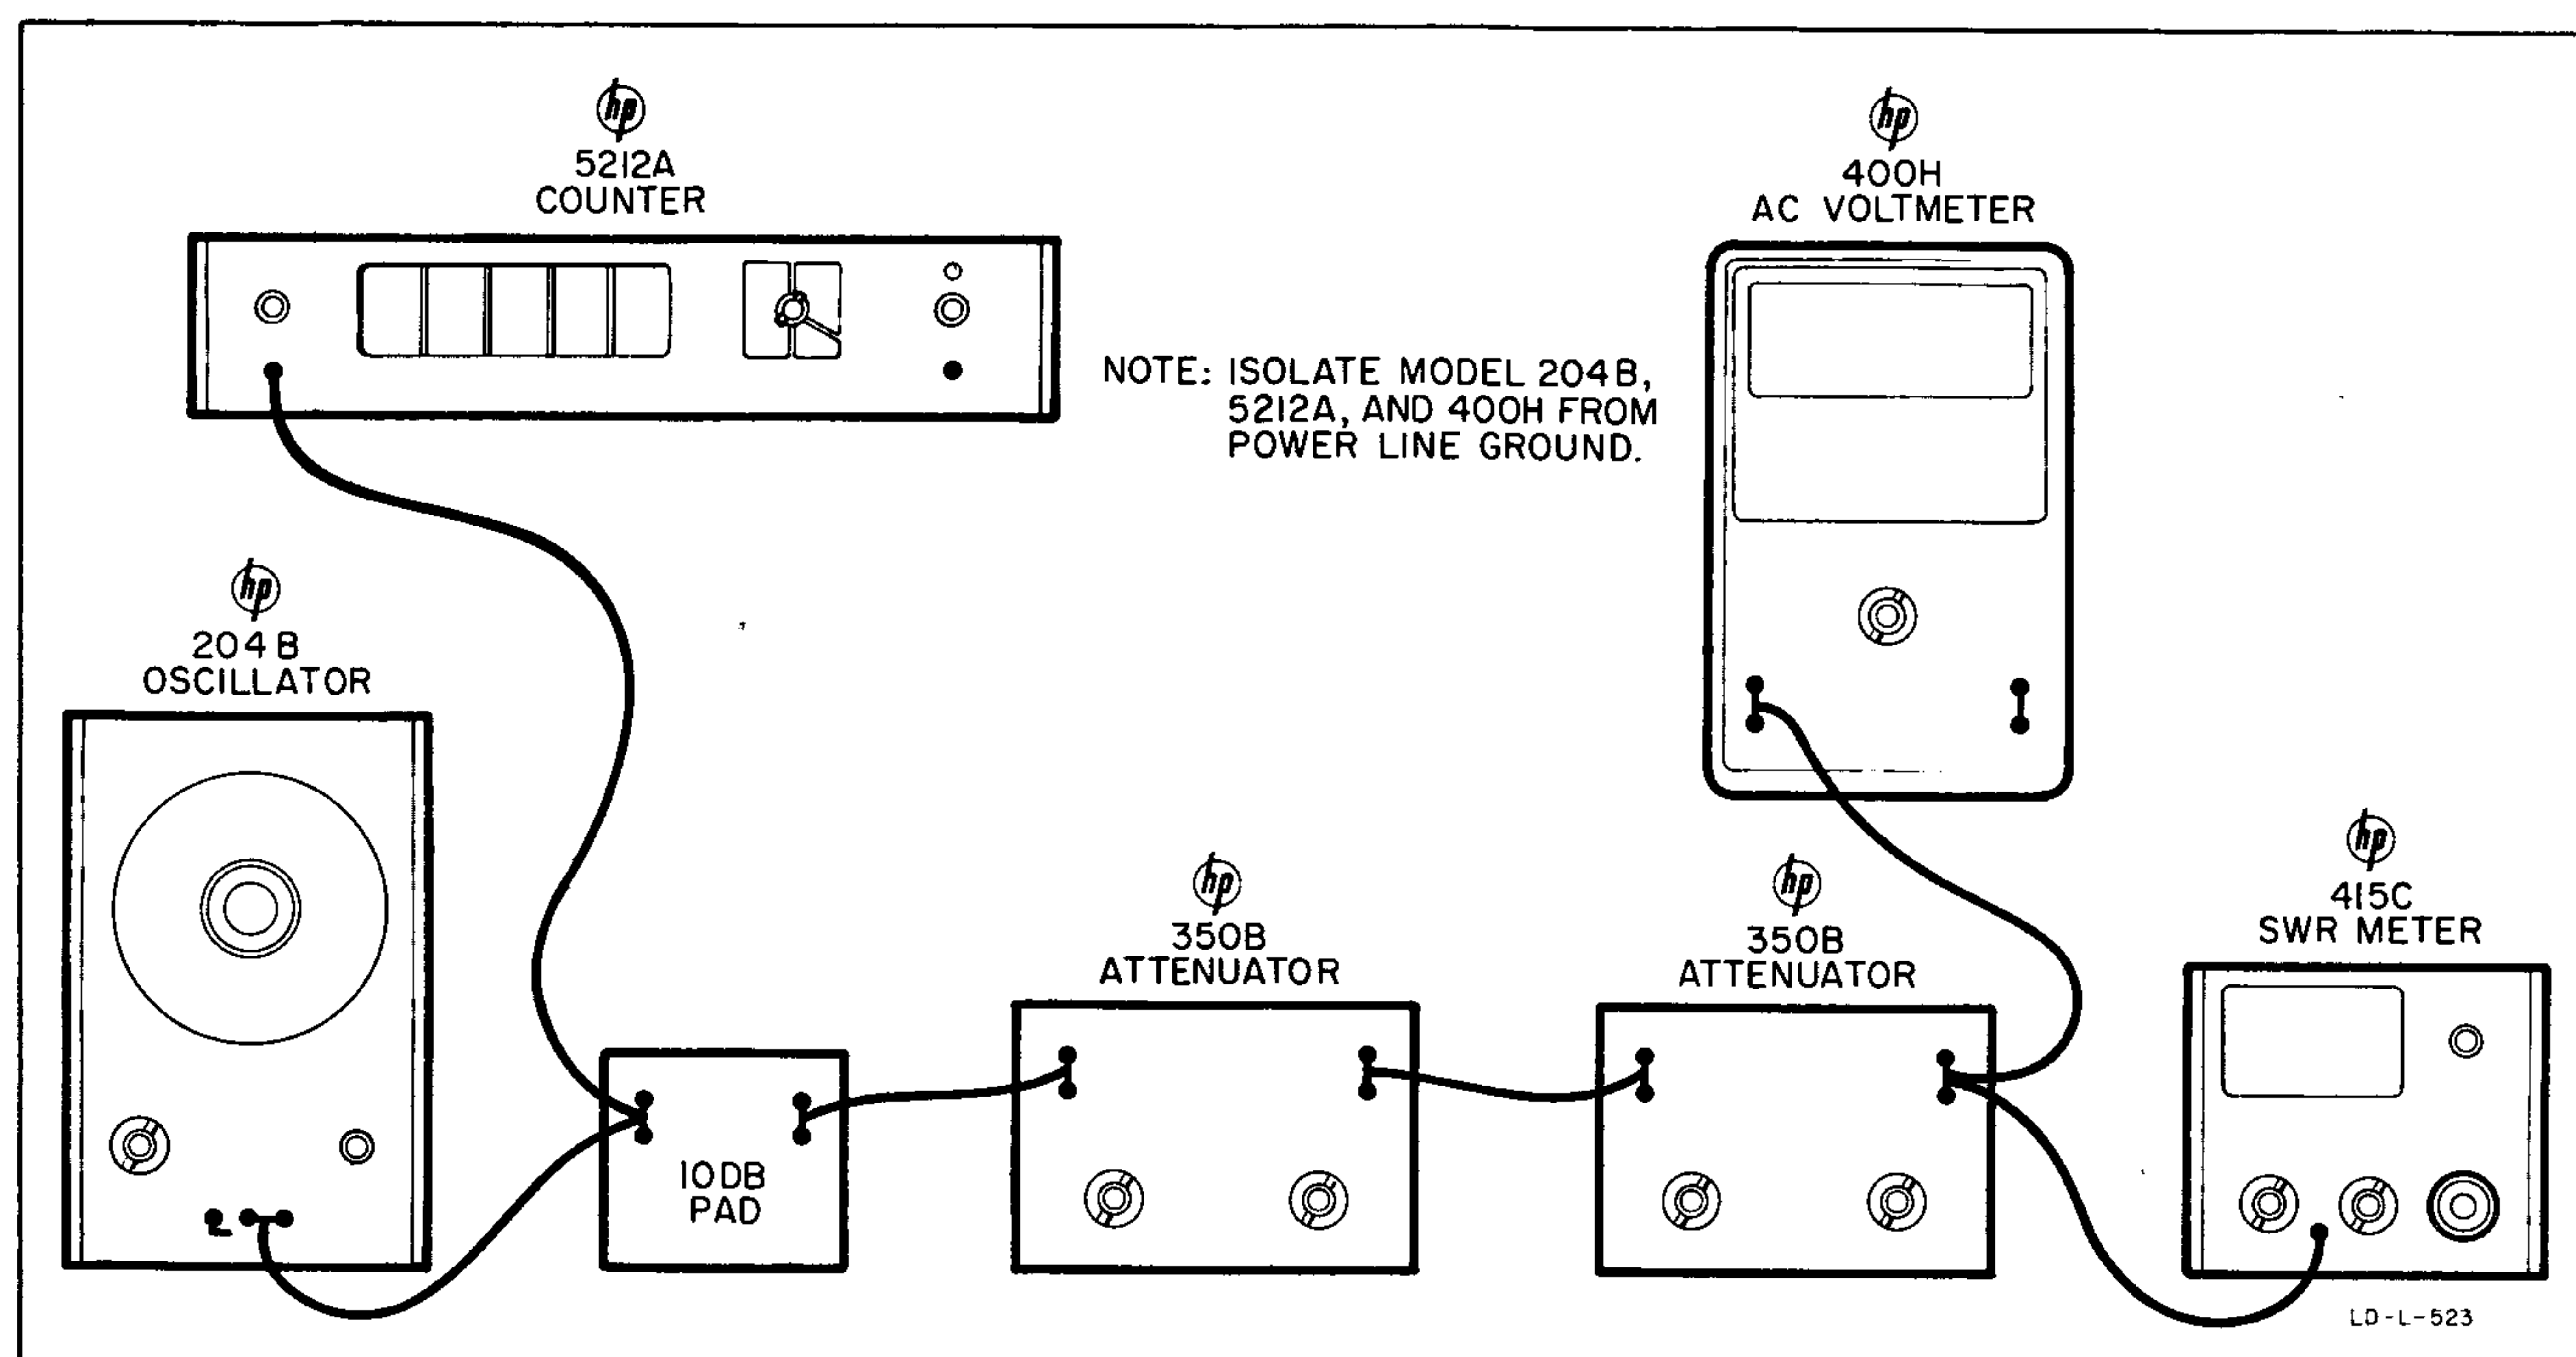

Figure 5-1. Test and Calibration Instrument Setup
5-6. In order to obtain accurate results when checking the Model 415C, it is necessary to maintain some attenuation at the input to compensate for a source impedance different from the calibrated attenuator used. The attenuator recommended for the test and adjustment and performance verification procedures in section V has an impedance of 600 ohms. Therefore, a 10-db, 600-ohm attenuator pad is suggested to be placed in the equipment setup shown in figure 5-1. If a separate attenuator pad is not used, then one of the Model 350B Attenuators may be left in the circuit and set to 10 db. If this method is used, the attenuator calibration specified in paragraph 5-7 must be extended to 60 db above the 10-db pad value. Also, if one of the Model 350B's (or any external attenuator) is used to provide the 10-db isolating pad, all settings of this attenuator in the procedures of section V must be increased by 10 db (i.e. the 10-db point becomes a reference for the attenuator setting).
a. Connect test equipment as in figure 5-1, omitting both attenuators (see paragraph 5-5) and the ac voltmeter.
a. Connect the test equipment as shown in figure 5-1, omitting both attenuators (see paragraph 5-5) and the ac voltmeter.